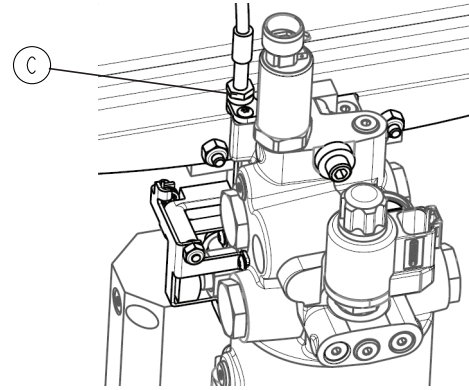

Figure 19 – Tighten the jam nut
8. Using a 10 mm combination wrench, tighten the jam nut (C) after slack in the manual release cable is gone (Figure 19).